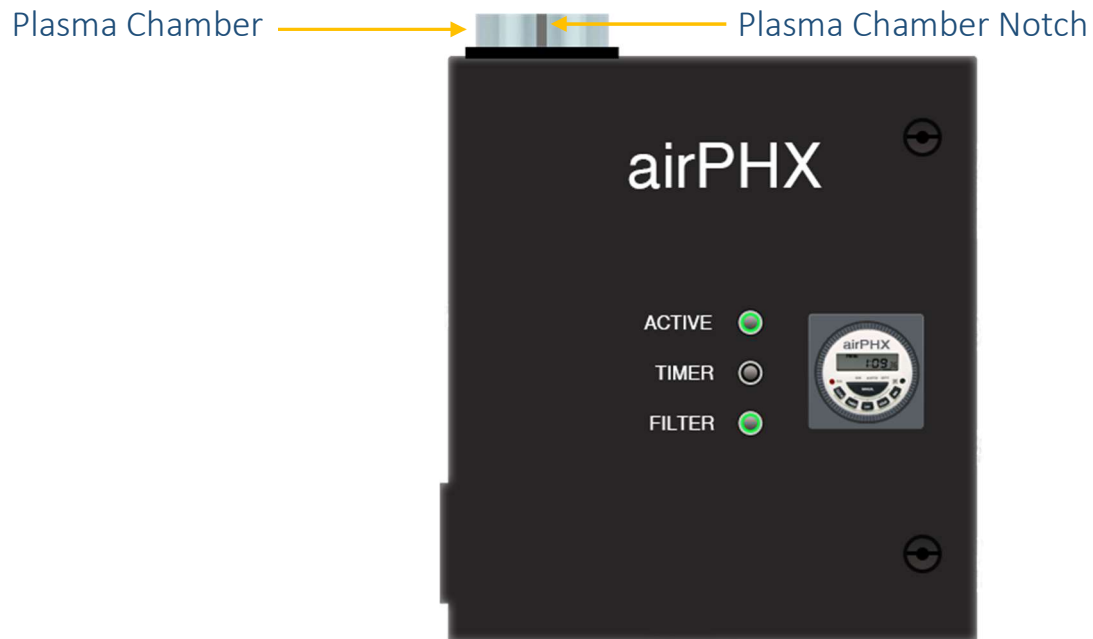

Fig 1C
5. The grill can be removed once all four screws have been completely loosened, refer to fig 1C. If you find it difficult to remove the grill, check to make certain that all four screws have been completely loosened.
7. Note - when installing the new plasma chamber, make certain that the notch cut into the top of the plasma chamber is aligned with the front of the unit as shown in fig 1C.